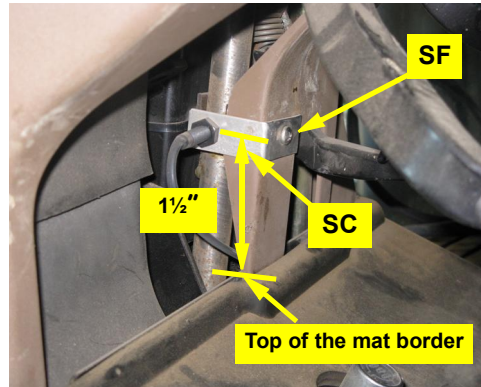

Figure 3: Installed sensor bracket and sensor
- b. Using the provided self-tapping screw **SF**, attach sensor bracket **SC** to the plastic cover at the point you measured (Figure 3).